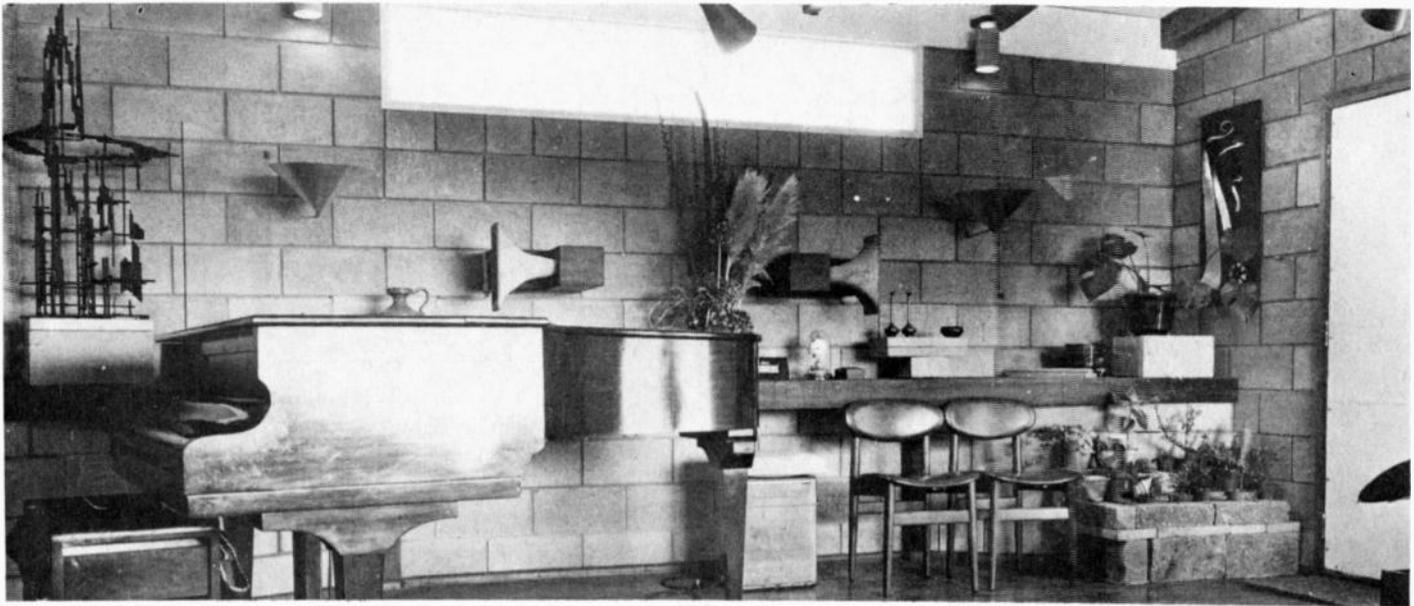

Fig. 3. The speaker system for the stereo channels is unobtrusively mounted. Concrete pressure horns will be hidden in a cupboard.
*Fig. 7. The 3 inch and omnidirectional speakers are mounted face up in the bench top. A copper cone reflector (visible in Figs 3 and 6) disperses the sound horizontally.*